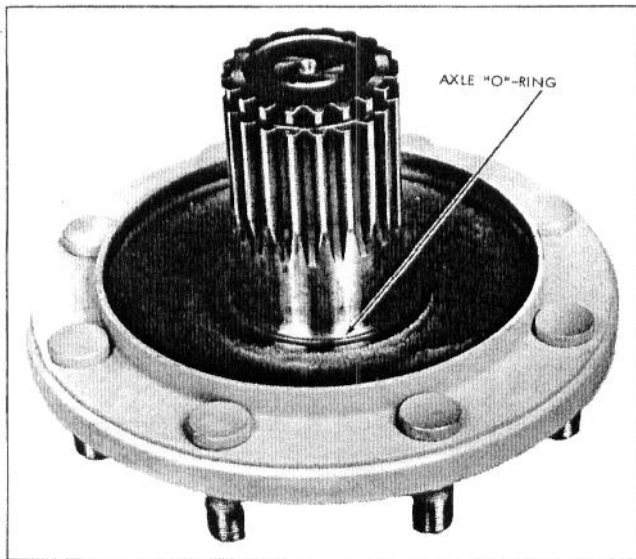

Fig. 49 - "O"-Ring Position
3. Place the "O"-ring seal on the wheel axle. See Fig. 49.